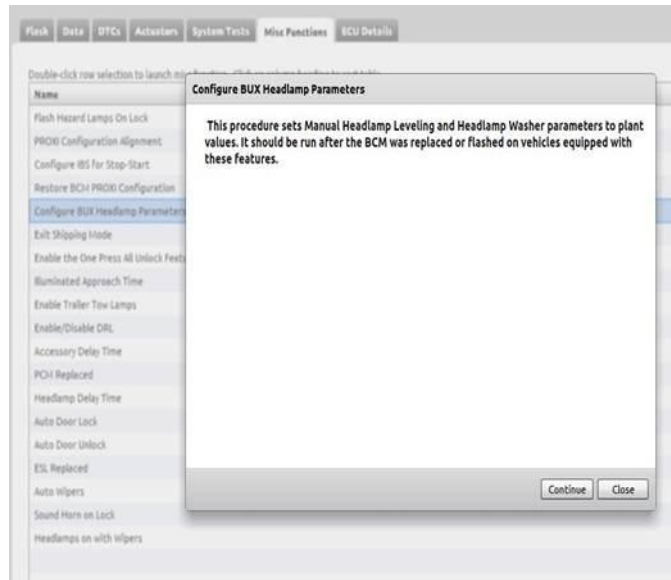

Fig. 2 Misc Function Tab Screen
2. Configure BUX headlamp Parameters. Detailed instructions for using the wiTECH Diagnostic Application are available by selecting the application's "MISC FUNCTIONS" tab (Fig. 2).